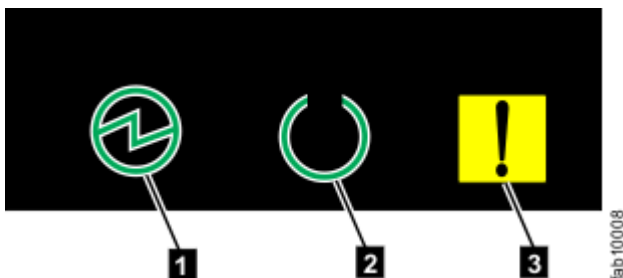

Figure 28. Node canister LEDs
- Step 5. From the rear of the control enclosure, check the LEDs on each node canister (see Figure 28 “Node canister LEDs” on page 28).